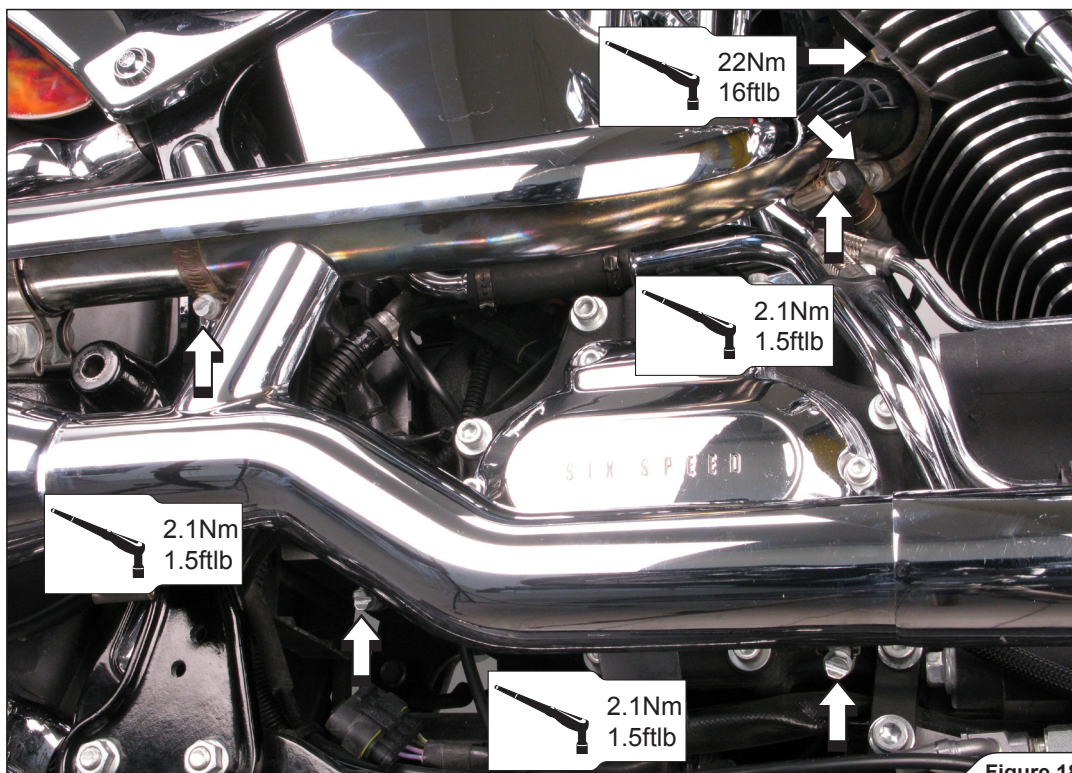

Figure 18
8. Align the original heat shield and tighten the marked tape clamps to a specified torque. Assemble the front header's bracket and tighten both headers' nuts to the specified torque (Figure 18).